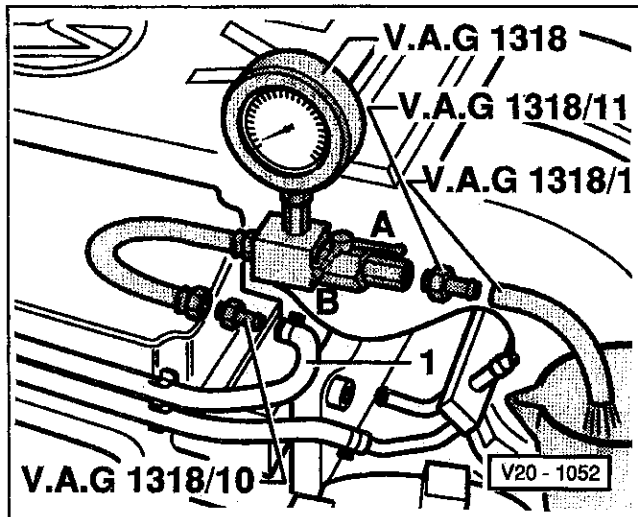
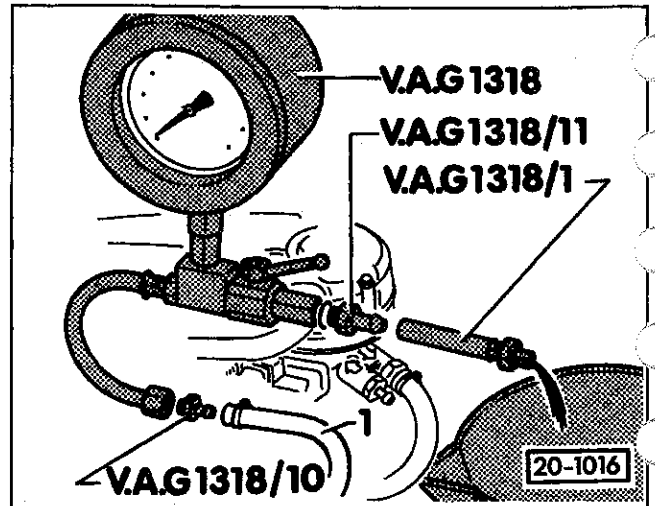

Fig. 5. Fuel gauge hook-up on Motronic cars (ABA, AAA engines). Supply line shown at (1). Numbers are for VW special tools.
Fig. 6. Fuel gauge hook-up on Mono-Motronic cars (ACC engine). Supply line shown at (1). Numbers are for VW special tools.
- On Motronic cars (ABA and AAA engines), disconnect the supply line from the fuel rail. See Fig. 5.
- On Mono-Motronic cars (ACC engines), disconnect the supply line from the throttle body. See Fig. 6.
1. Connect the fuel pressure gauge as shown in Fig. 5 or Fig. 6.